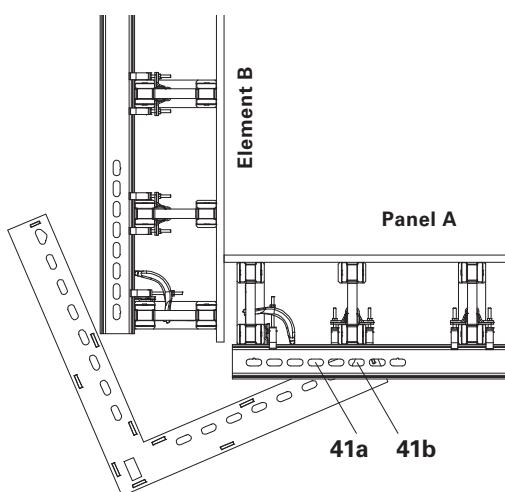

Fig. B4.03
3. Remove Securing Wedge KZ (41a) and lift Wedge KZ (41b). (Fig. B4.03)